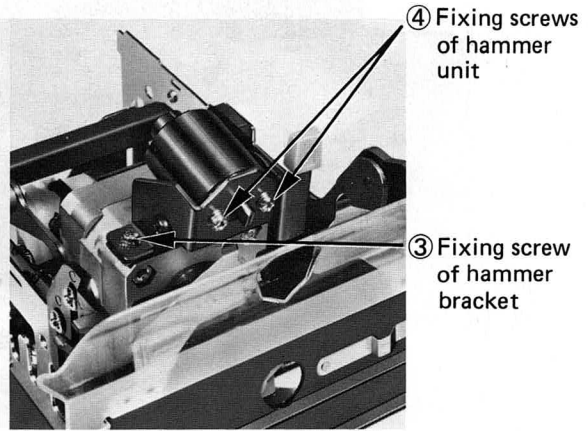

Fig. 5.23
- Step 5. Remove two fixing screws ③ of the hammer bracket to take off the hammer bracket and hammer unit. (Fig. 5.23)
- Step 6. Remove two fixing screws ④ of the hammer unit to take off the hammer unit. (Fig. 5.23)